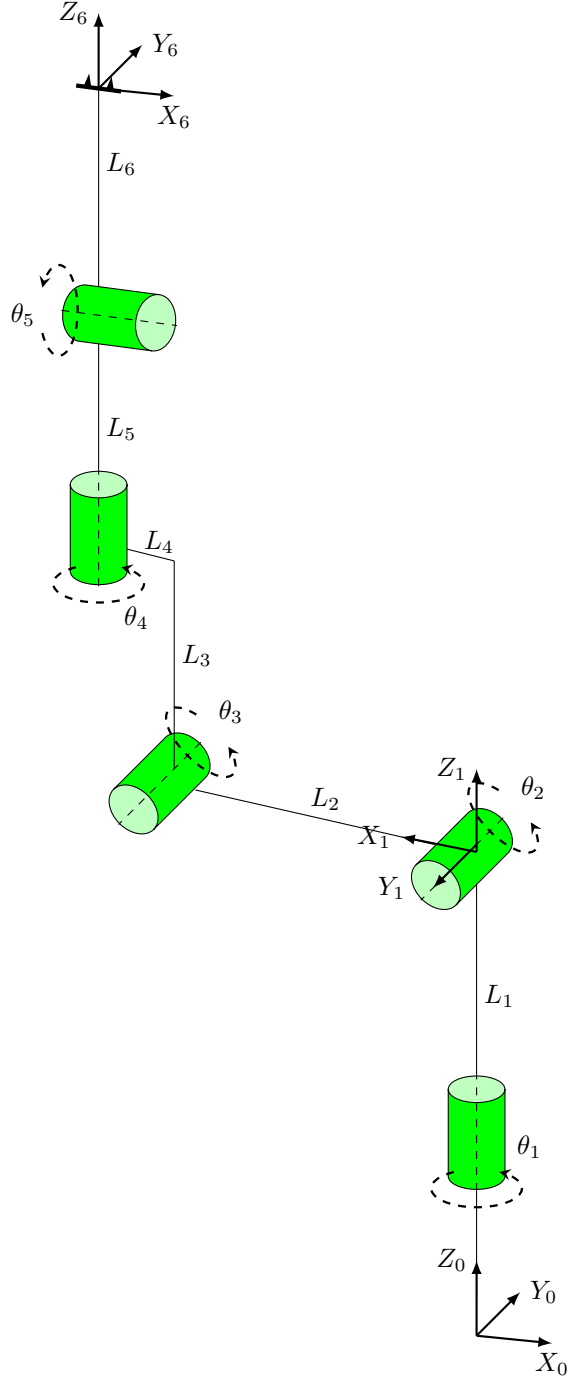

Figure 3: AX18A schematic, the following offsets exists from the zero configuration:  $\theta_2 = \frac{\pi}{2}, \theta_3 = -\frac{\pi}{2}$
1. Assign frames for the robot arm in the schematic Figure 3, frame 1 is already assigned. Note that the robot in Figure 3 is not in zero-configuration. Put your answers (drawings) in the mini-report. (15%)
2. Determine the Denavit-Hartenberg parameters and put the DH-table in the report (We use the configuration as in Figure 3, which has offsets). (12.5%)